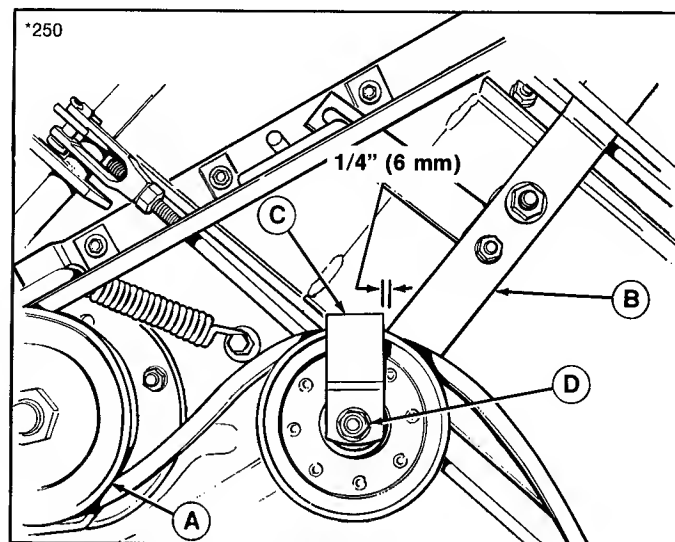
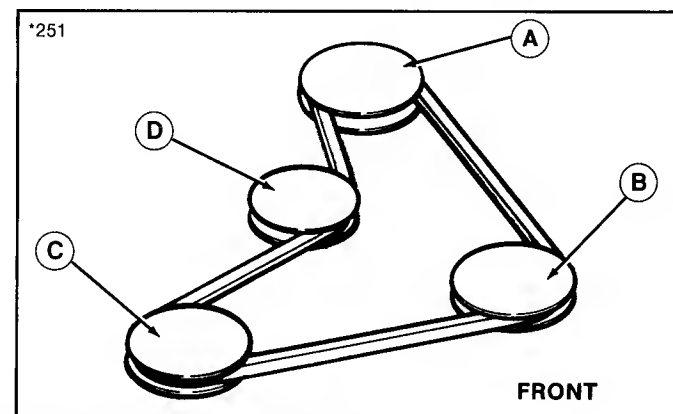

Figure 28. Mower Belt Replacement
Figure 29. Mower Belt Pattern
2. Loosen the belt guide (C, figure 28) on the idler pulley.
3. Move idler arm (B) toward rear of mower deck to release blade brakes.
5. Install the new belt on the pulleys as shown in figure 29.
7. Reposition the belt guide on the idler pulley (figure 28). Before tightening the nut (D), position the belt guide so it is 1/4 inch (6 mm) behind the idler arm (B) when viewed from above (figure 28). Hold the belt guide when tightening nut.